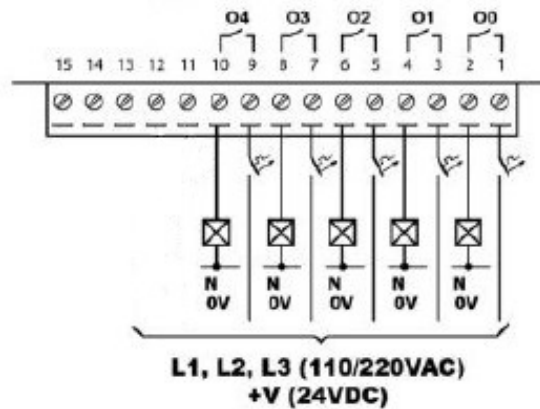

Figure 50. Remote Relay Wiring
- Increasing Contact Life Span as shown in Figure 50.